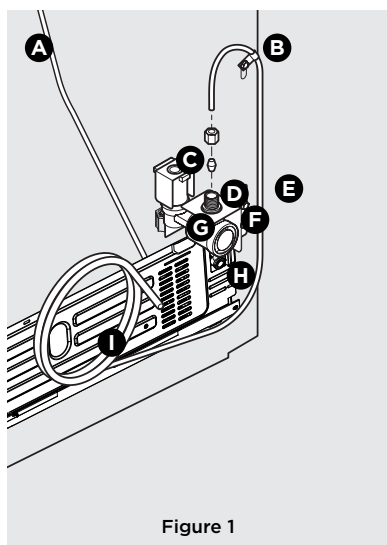

Figure 1
4. **If you use copper tubing** - Slide the brass compression nut, and then the ferrule (sleeve) onto the water supply line. Push the water supply line into the water valve inlet as far as it will go (1/4"/6.4 mm). Slide the ferrule (sleeve) into the valve inlet and finger tighten the compression nut onto the valve. Tighten another half turn with a wrench; DO NOT overtighten. See Figure 1.